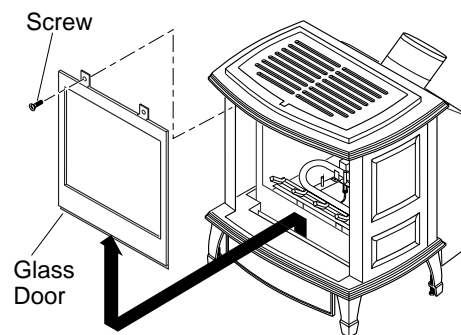

Figure 52 - Removing Glass Door from Burner System
2. Remove the screws from the 2 tabs at the top of the glass door while holding door securely keeping it from falling forward (see Figure 52).
3. Grasp door by both sides and ease it upward off of the lower bracket (see Figure 52).